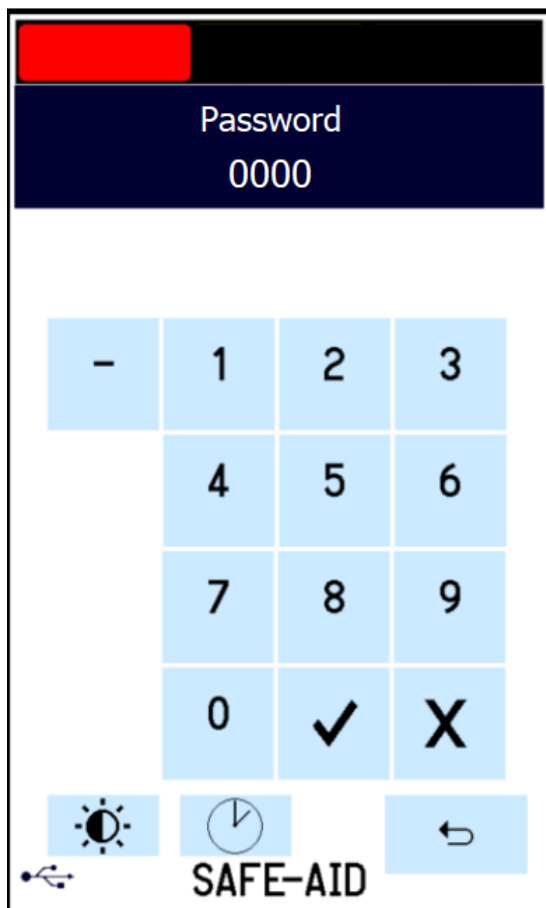

Figure 31
SET DATE & TIME - FIGURES 31 & 32
1. Press the top left-hand corner and the **Password** screen will be displayed (figure 31).